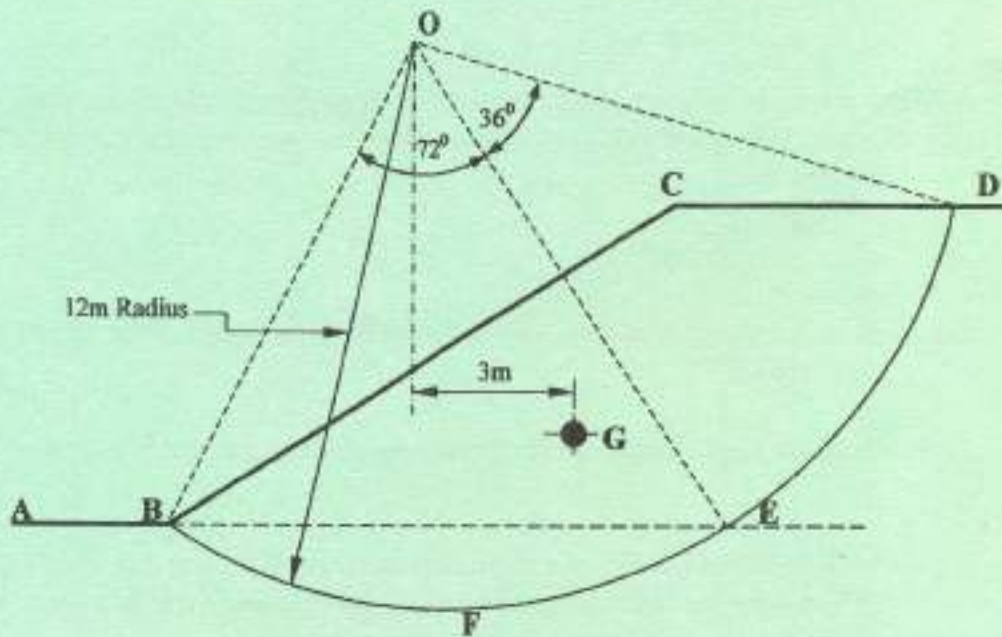

Fig 3
- (b) Figure 3 shows a section of a clay bank, in which a trial slip surface BFED is chosen in the form of a circular arc of radius 12m. The area of the figure BCDEF is 93m^2 and its centroid is at G. The average density of the soil is 1800kg/m^3 . Above the level ABE the cohesion of the soil is 20kN/m^2 , and below this level, the cohesion is 32kN/m^2 . Estimate the factor of safety on this assumed surface, taking $\phi = 0$. (6 marks)